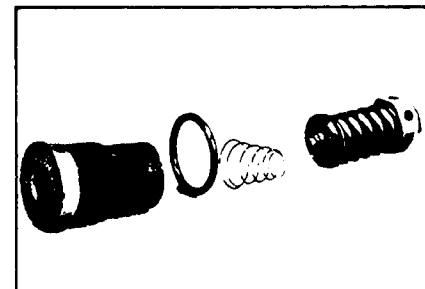

Figure 62
- 21. If relief valve components items #21, #22, #24 were removed from the end cover (2) assemble a **new** o-ring (22) on the two plugs (21). Assemble a two piece relief valve (24) in each of the plugs, with the large end of the conical spring into the plug first and the small nut of the other valve piece in the small end of the conical spring. Turn each of the plug and relief valve assemblies into the end cover loosely to be torqued later. 3/8 inch Allen or 1 inch Hex socket required. SEE FIGURE 62.